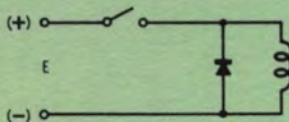
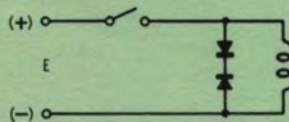

Fig. 2 — Polarized Protection
Fig. 3 — Non-polarized Protection
Typical circuits illustrating the use of semiconductors in contact protection are shown in Fig. 2 and Fig. 3. The choice of which circuit to use will depend upon three factors: (1) supply voltage; (2) maximum permissible induced voltage; and (3) maximum allowable time delay in de-energizing the coil.
It is thus seen that the peak voltage is dependent only on the supply voltage and the ratio of suppressor resistance to coil resistance. However, if  $R_S$  is made small in order to reduce the peak generated voltage, the delay time becomes longer. The circuit of Fig. 2 has a low forward resistance, and the circulating current will tend to flow for a much longer time than it takes for the current to decay in an unprotected circuit. If decay time is important, then the circuit of Fig. 3 should be used. If the supply is ac, then Fig. 3 is absolutely necessary, since the suppressor must block voltages of both polarities equally.